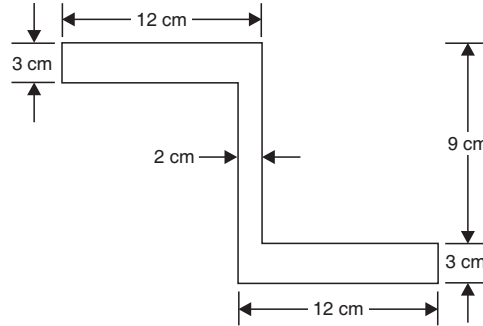

Fig. 5.36
5. Determine the moment of inertia of the Z-section in Fig. 5.36 about  $XX$  and  $YY$  axes, where  $XX$  and  $YY$  are the axes passing through the centroid of the figure. [Ans.  $I_{xx} = 1548 \text{ cm}^4$  ;  $I_{yy} = 2668 \text{ cm}^4$ ]